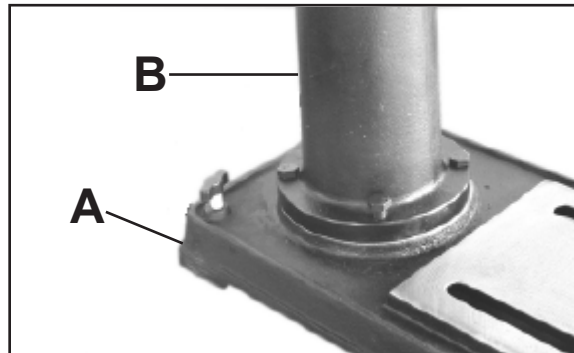

Figure 1
1. Place the base (A-Fig. 1) on a level floor where the machine will be used.
2. Attach the column (B-Fig.1) to the base (A-Fig. 1) using four M8x20 hex bolts. Tighten all four bolts.